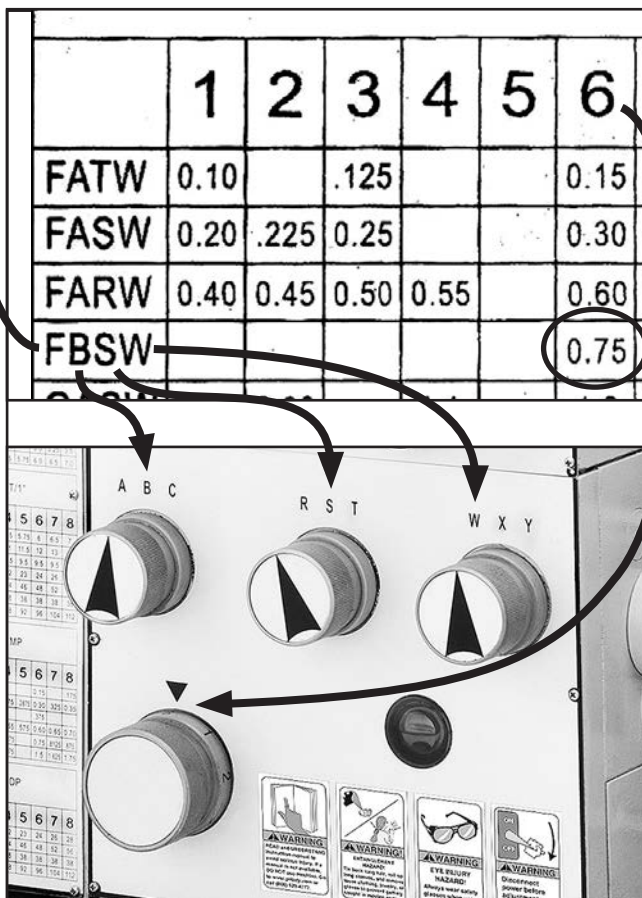

Figure 56. Thread control settings for 0.75 pitch.
- Move the threading dials to the combination of **FBSW6**, as shown in **Figure 56**.